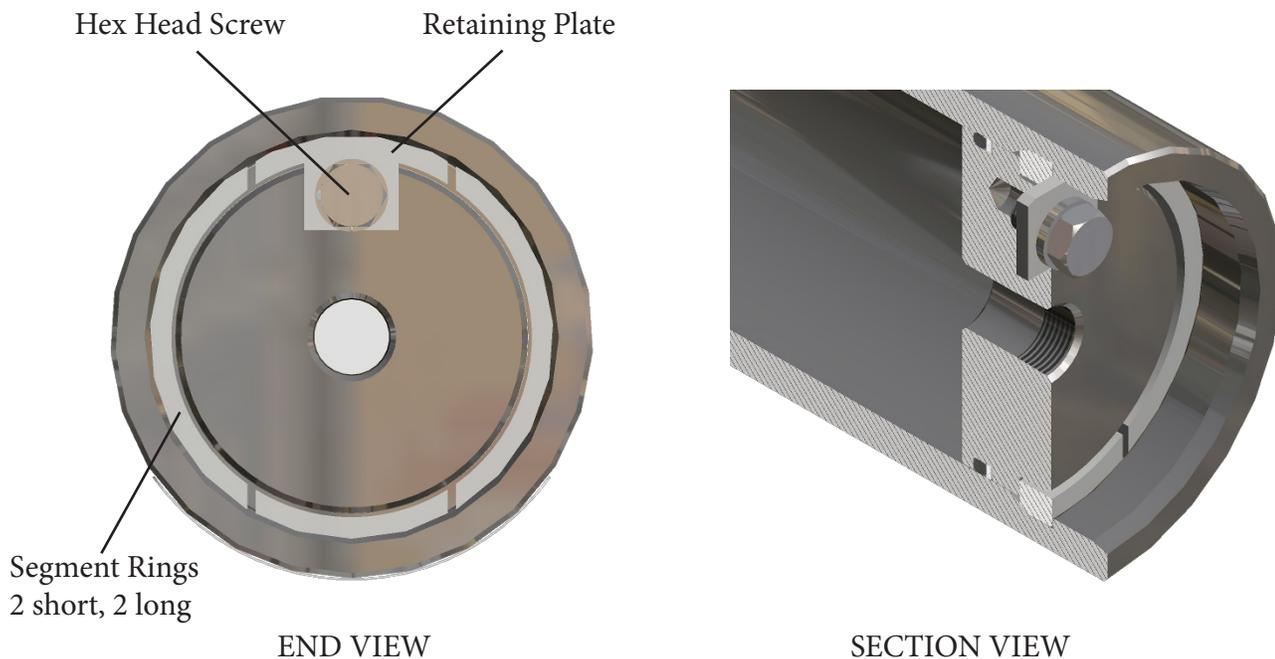

Figure 4 - Typical End-cap with Segment Ring Arrangement
2. Lubricate each piston seal and install the seals onto the piston. Reference Figure 4 for the different sealing arrangements. Position the seals accordingly (Helpful hint: coat wear ring(s) with a system compatible grease to hold it / them in place.).